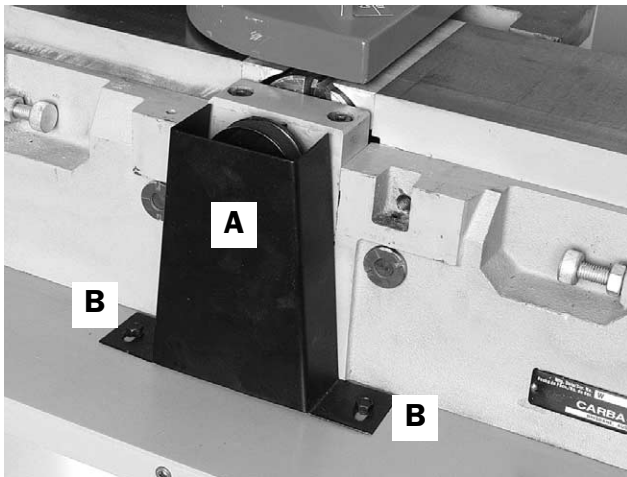

Fig. 2
Replace pulley guard Fig. 2 (A) with two screws Fig. 2 (B) into jointer base.